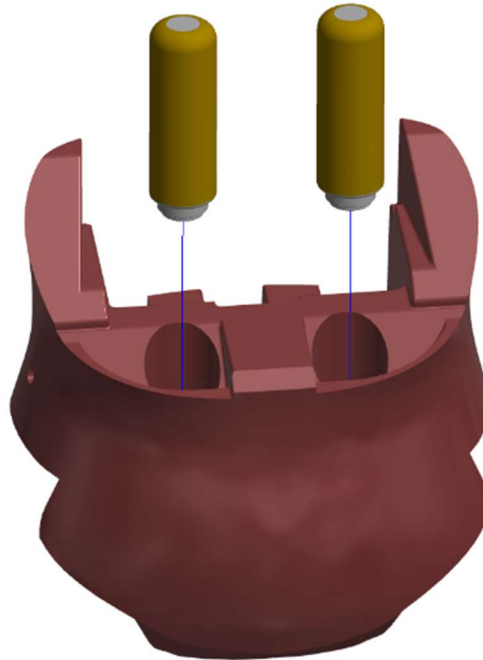

Figure 5-10. Remove the pressure sensors from the Abdomen (474-4305)
5.2.4 Remove the APTS sensors (SA572-S162) from the Abdomen (474-4305) (Figure 5-10).